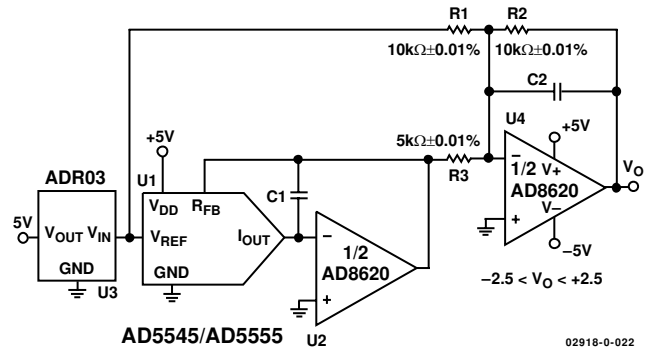

Figure 22. Four-Quadrant Multiplying Application Circuit
In some applications, it may be necessary to generate the full 4-quadrant multiplying capability or a bipolar output swing. This is easily accomplished by using an additional external amplifier, U_4 , configured as a summing amplifier (see Figure 22). In this circuit, the second amplifier, U_4 , provides a gain of 2, which increases the output span magnitude to 5 V. Biasing the external amplifier with a 2.5 V offset from the reference voltage results in a full 4-quadrant multiplying circuit. The transfer equation of this circuit shows that both negative and positive output voltages are created because the input data (D) is incremented from code zero ($V_{OUT} = -2.5$ V) to midscale ($V_{OUT} = 0$ V) to full scale ($V_{OUT} = +2.5$ V).